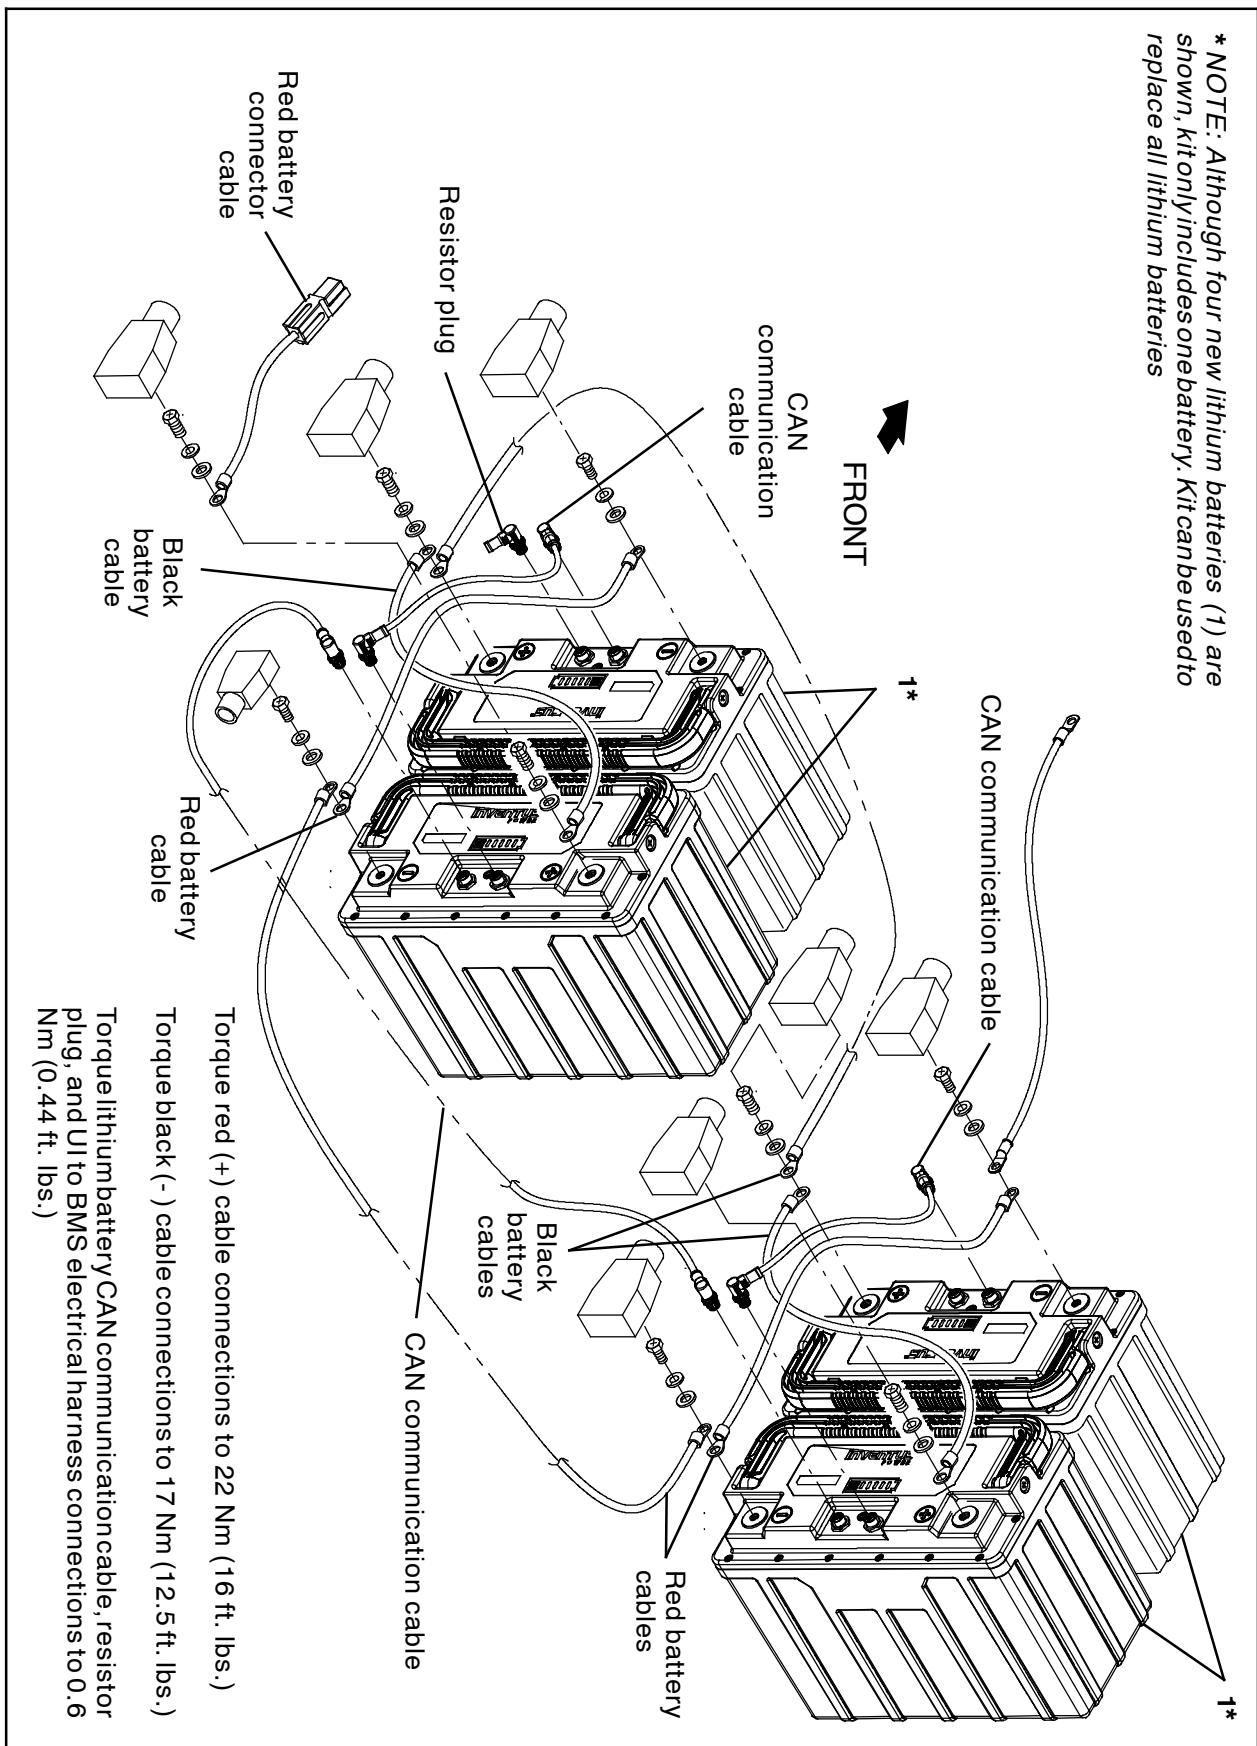

FIG. 10
- Disconnect all cables from the faulty lithium battery being replaced. (Fig. 10)
- If replacing the lithium battery equipped with the resistor plug, remove the resistor plug from the battery. Set the resistor plug aside. (Fig. 10)
- Remove the faulty lithium battery from the battery compartment. (Fig. 10)
- Install the new lithium battery into the battery compartment. (Fig. 10)
- Reinstall the battery cables, CAN communication cables, and resistor plug (if battery equipped with resistor plug is being replaced) onto the battery. (Fig. 10)